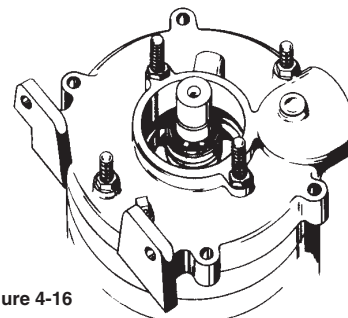

Figure 4-16
25. The seal rotating element can now be installed.(refer to figure 4-16) One and two stage pumps position both seals (#12) by a shoulder on the shaft. Three and four stage pumps locate the rear